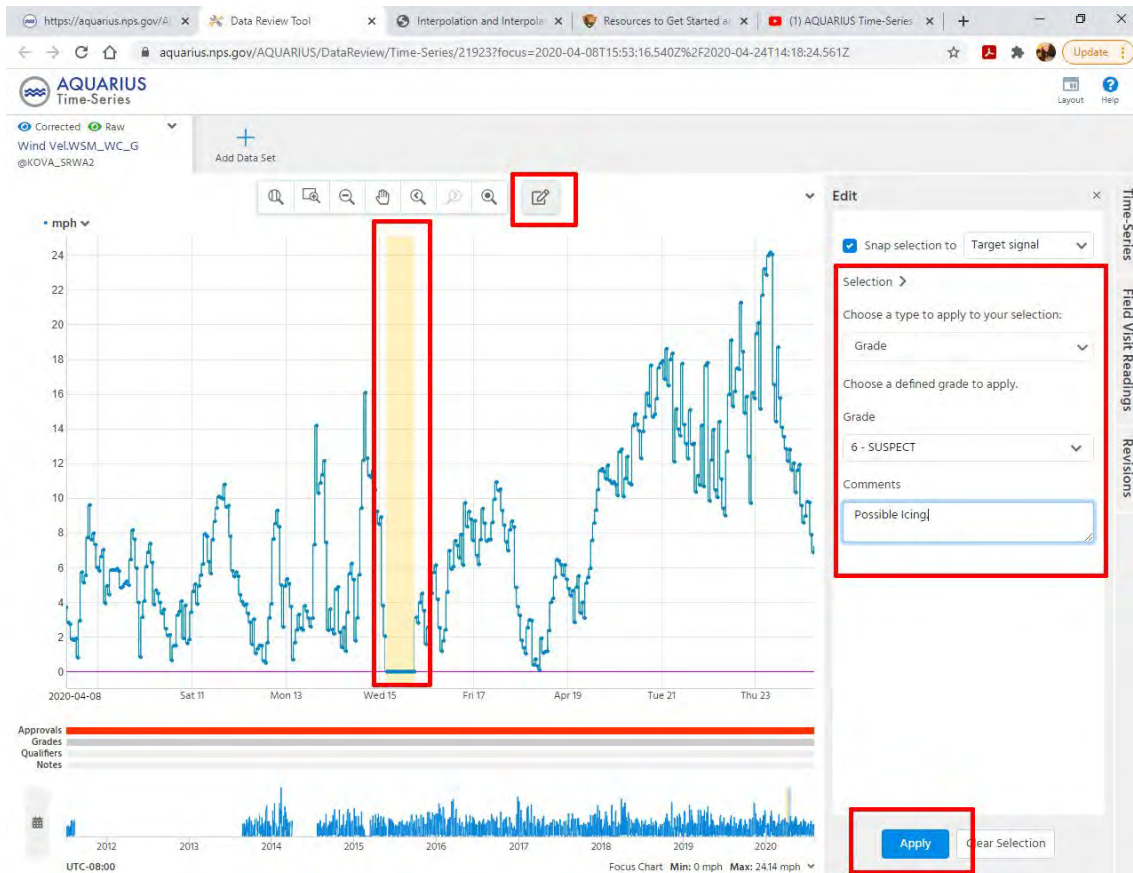

Figure SOP 11-20. Quality grading example for wind speed measurements.
- 1- Manually reviewing hourly rainfall observations by graphical inspection. Based on expert opinion, erroneous measurements during the summer months are deleted (see Figure SOP 11-20). The most common reason for erroneous measurements fitting these criteria is a damaged sensor.